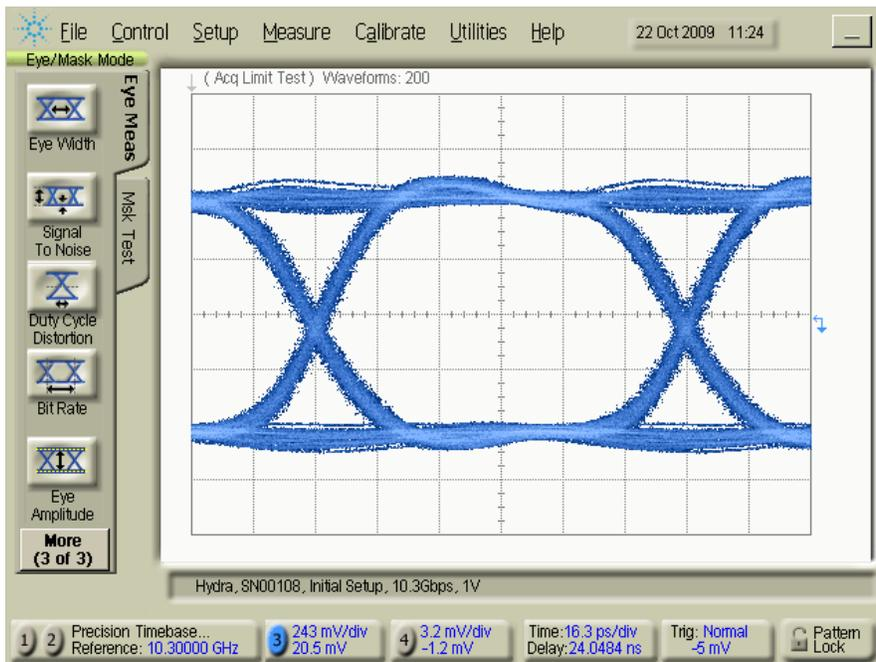

Figure 4. Installation setup waveform
12. Verify that the waveform is similar to the one shown in Figure 4.